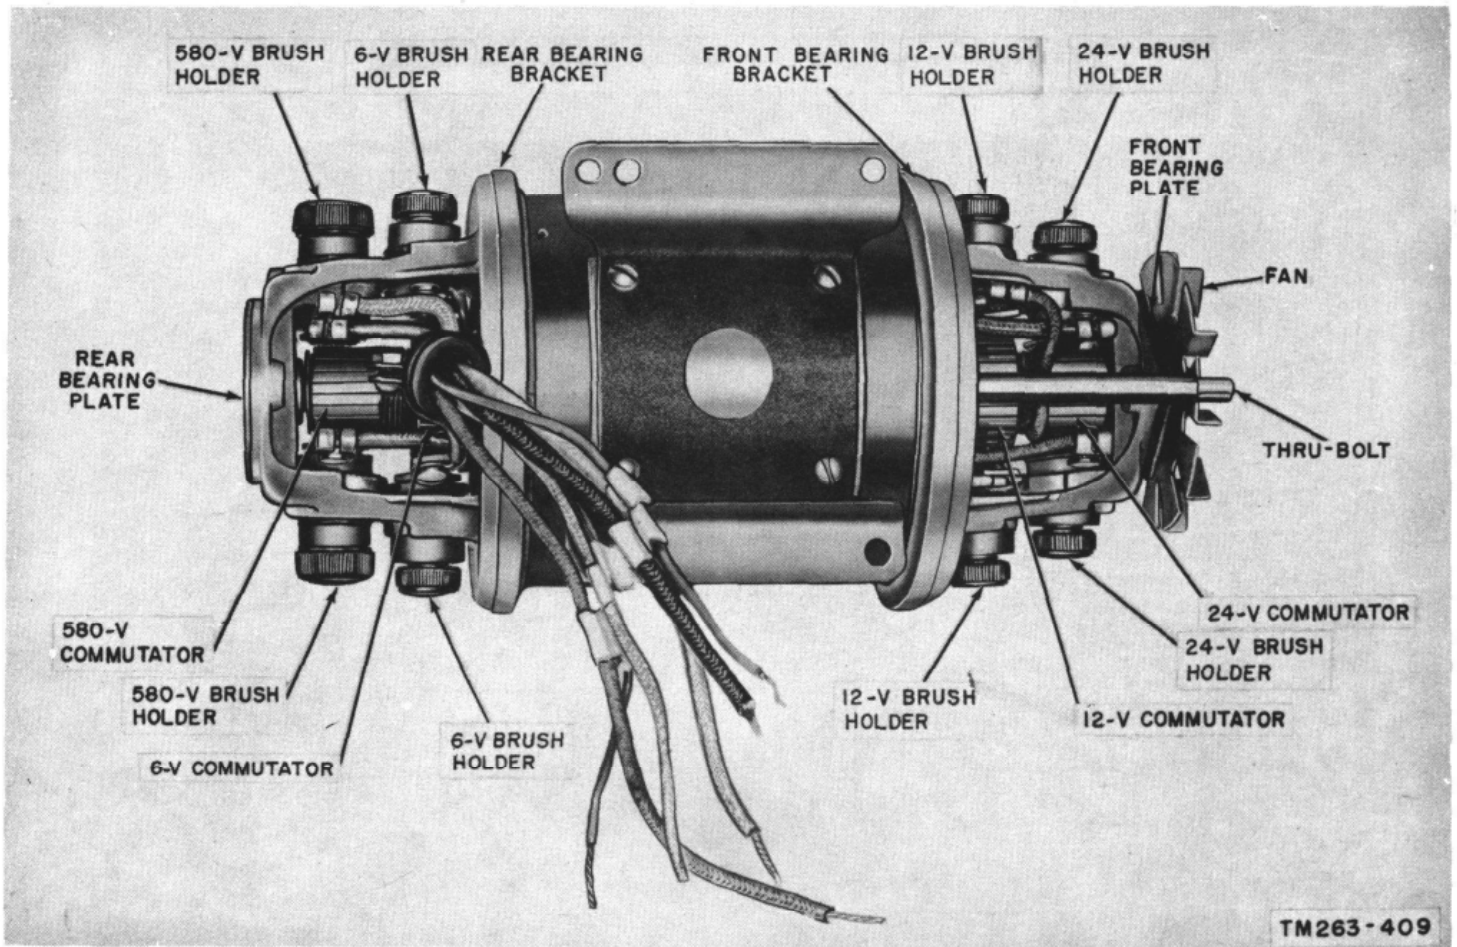

Figure 144. Dynamotor D201, covers removed, bottom view.
b. Remove the four screws holding each of the two front brush covers (fig. 141) to the dynamotor. The 12- and 24-volt brushes (fig. 144) are now accessible.